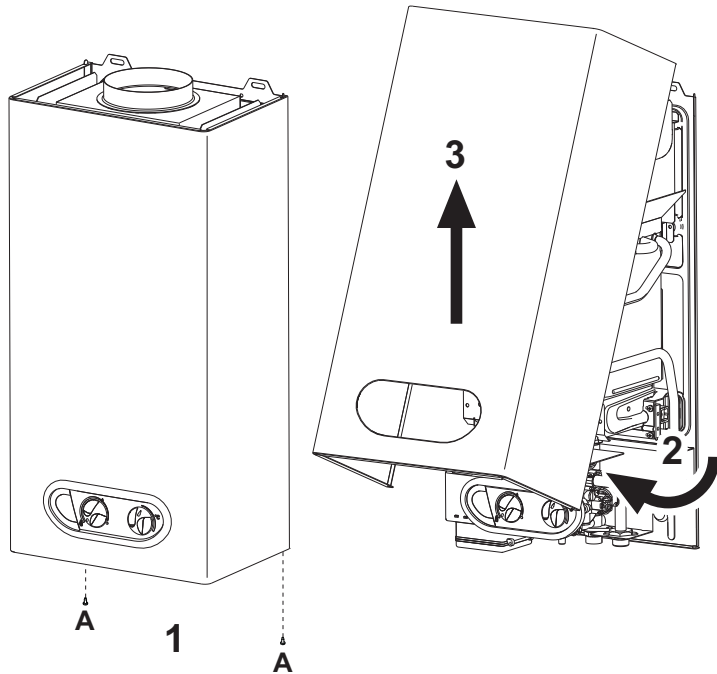

fig. 11 - Opening the casing
1. Undo the two screws A (see fig. 11).